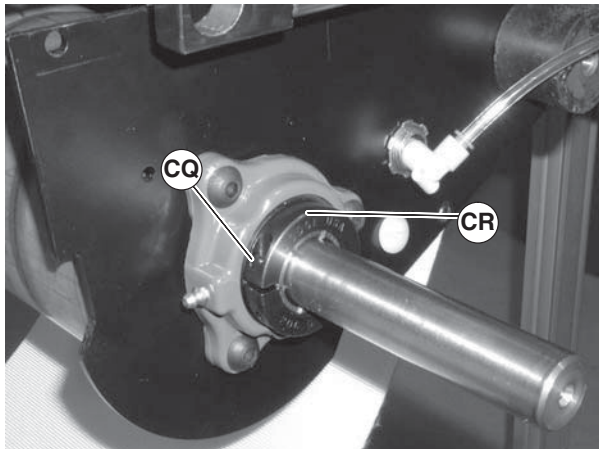

Figure 78
- Loosen clamp screw (Figure 78, item CQ) and remove bearing collar (CR).